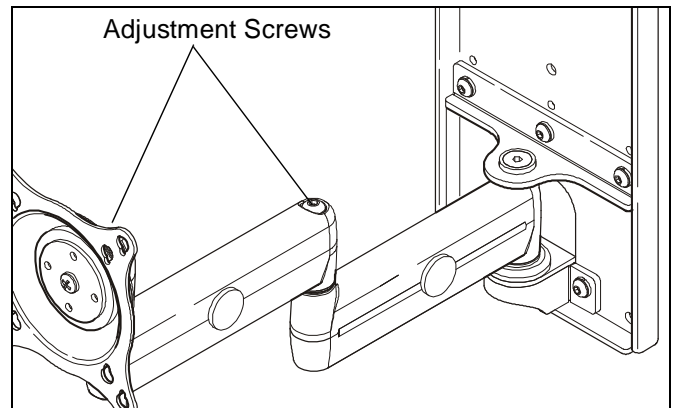

Figure 10
1. Using 3/16" hex key, slightly loosen or tighten the adjustment screw(s) as necessary (See Figure 10).